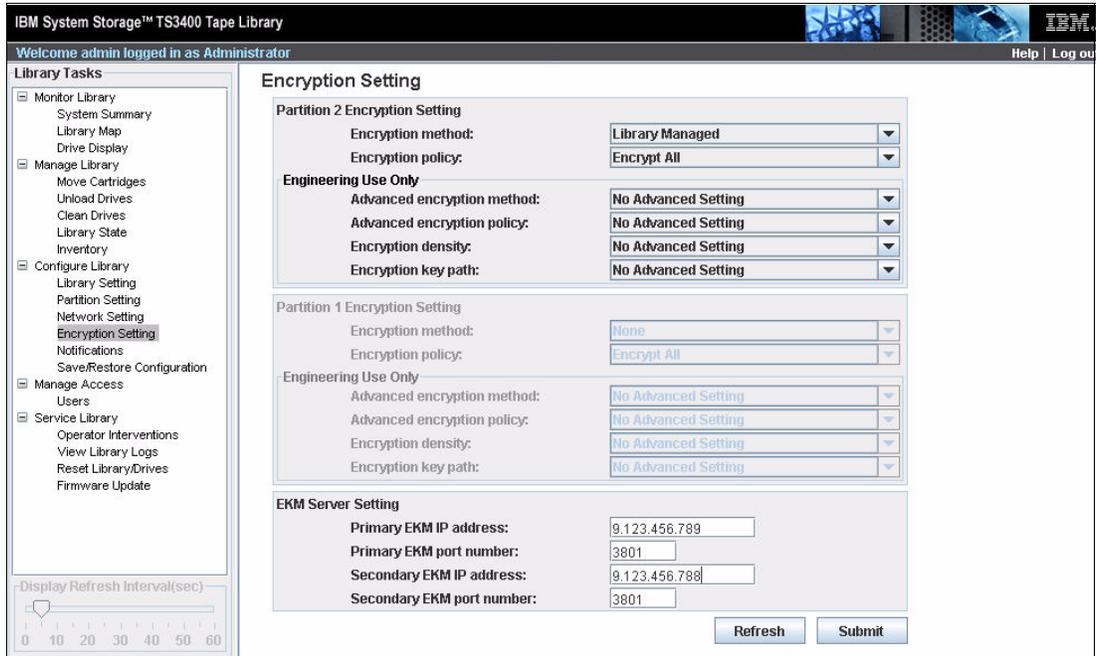

Figure 8-26 EKM settings for the TS3400
- The next step is to configure the EKM Server Setting. From the Welcome Page of the TS3400, select **Encryption Settings**. See Figure 8-26 on page 223.